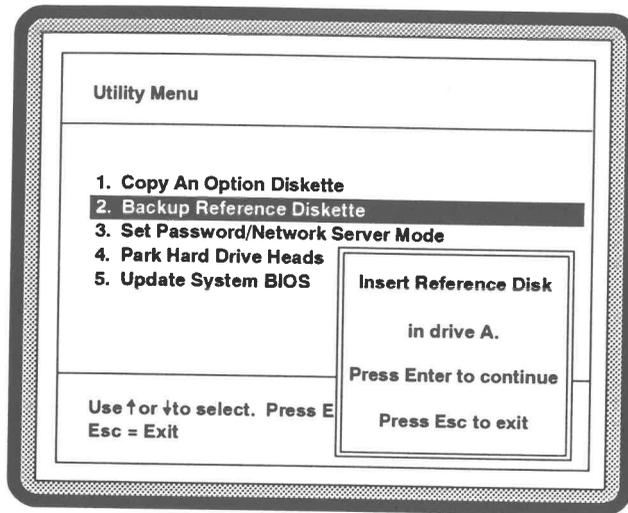

Figure 4-11 Reference Disk Backup Program Sequence
5. When the **Utility Menu** appears, select the **Backup Reference Diskette** option and press Enter (see Figure 4-11). The program then prompts you to alternately insert the Reference Diskette and then the backup (destination) diskette. Follow the prompts on the display to complete the backup process. Upon completion, the program provides notification and prompts you to press Enter.
NOTE: Figure 4-11 is a composite of the windows you will see while carrying out this procedure. It is intended to show the program sequence.